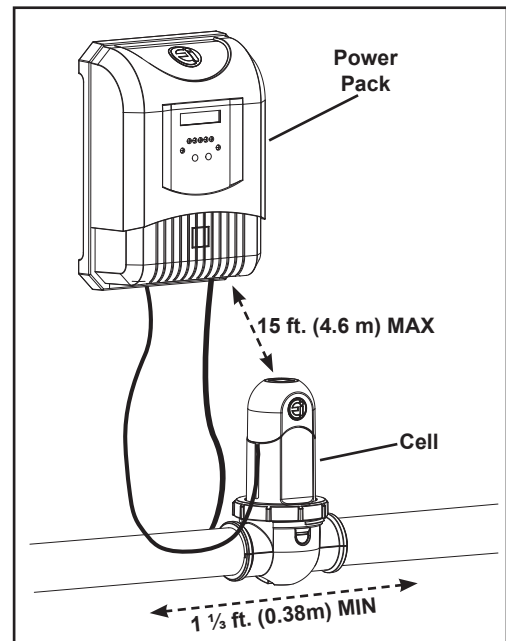

Figure 3. Installation Requirements
- The cell must be installed on a 1 ½ ft. (0.4 m) horizontal length of pipe after the heaters, pumps, and filters, as the last piece of equipment in the circulation plumbing system just before the pool (see Figure 3).
- The cell must be installed no more than 15 ft. (4.6 m) from the power pack (see Figure 3).